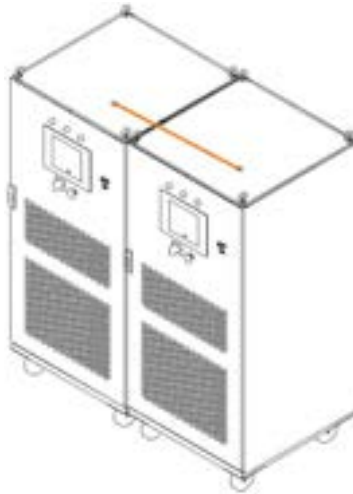

Figure 2-9 Cable holes on the top of the cabinet
Step 1: Insert optical fiber cables through the cable holes on the top of the cabinet, as shown in Figure 2-9.